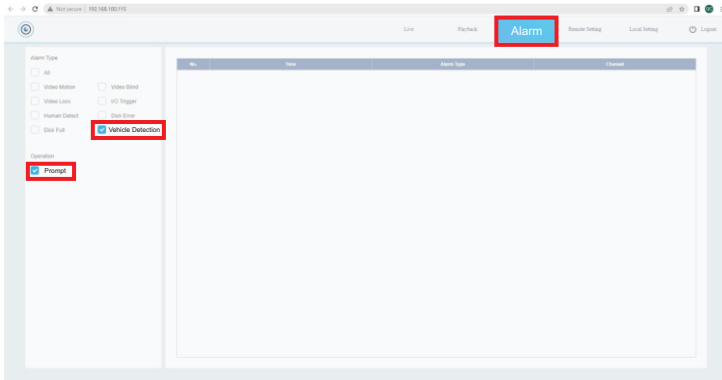

Figure 7. Alarm Tab. Vehicle Detection Check box. Prompt Check box
13. Click on "Alarm" Tab. Please see Figure 7.
14. Under the Alarm Type, check the "Vehicle Detection" check box. See also Figure 7.
15. Unser Operation, check the "Prompt" check box. See also Figure 7.